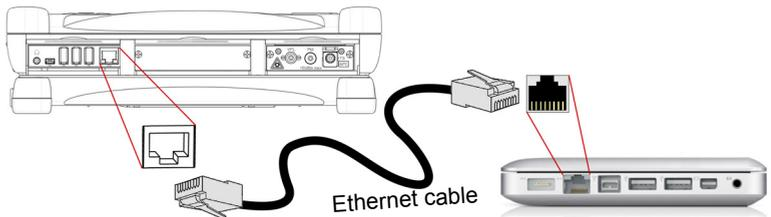

Fig. 1 Ethernet Connection T-BERD/MTS 8000 V2 <-> PC
- 2 Plug the RJ 45 connector of the Attribute/Descriptor into a hub or Ethernet switch with a straight-through Ethernet cable (see Figure 1 on page 2).